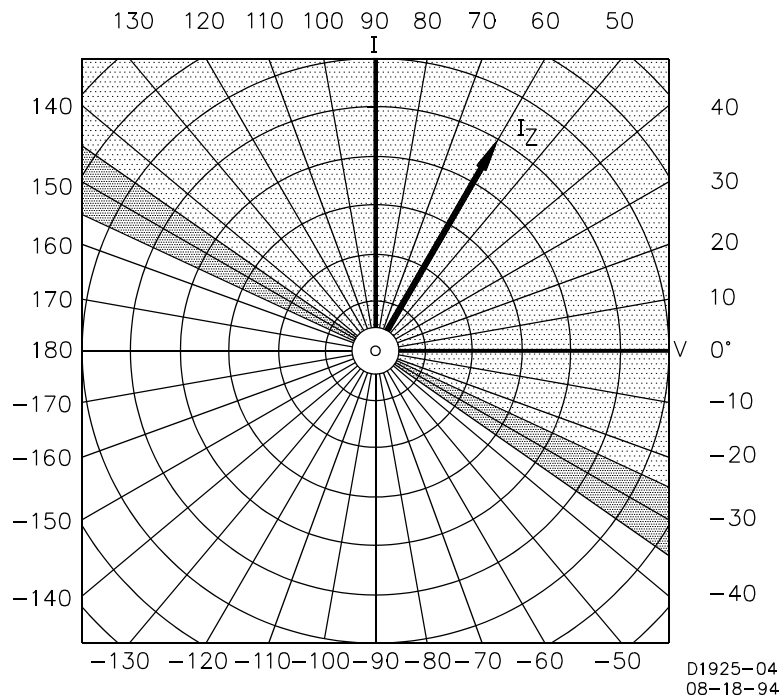

Figure 5-8.  $\alpha = 30^\circ$
- Step 5. Vary the phase angle of the input current through  $360^\circ$  and record the phase angles at which the INHIBIT LED is OFF. When shown on a polar plot, the result should be a straight line (through the origin) from  $-30^\circ$  to  $+150^\circ \pm 5^\circ$ . This plot defines the trip region as shown in Figure 5-8.